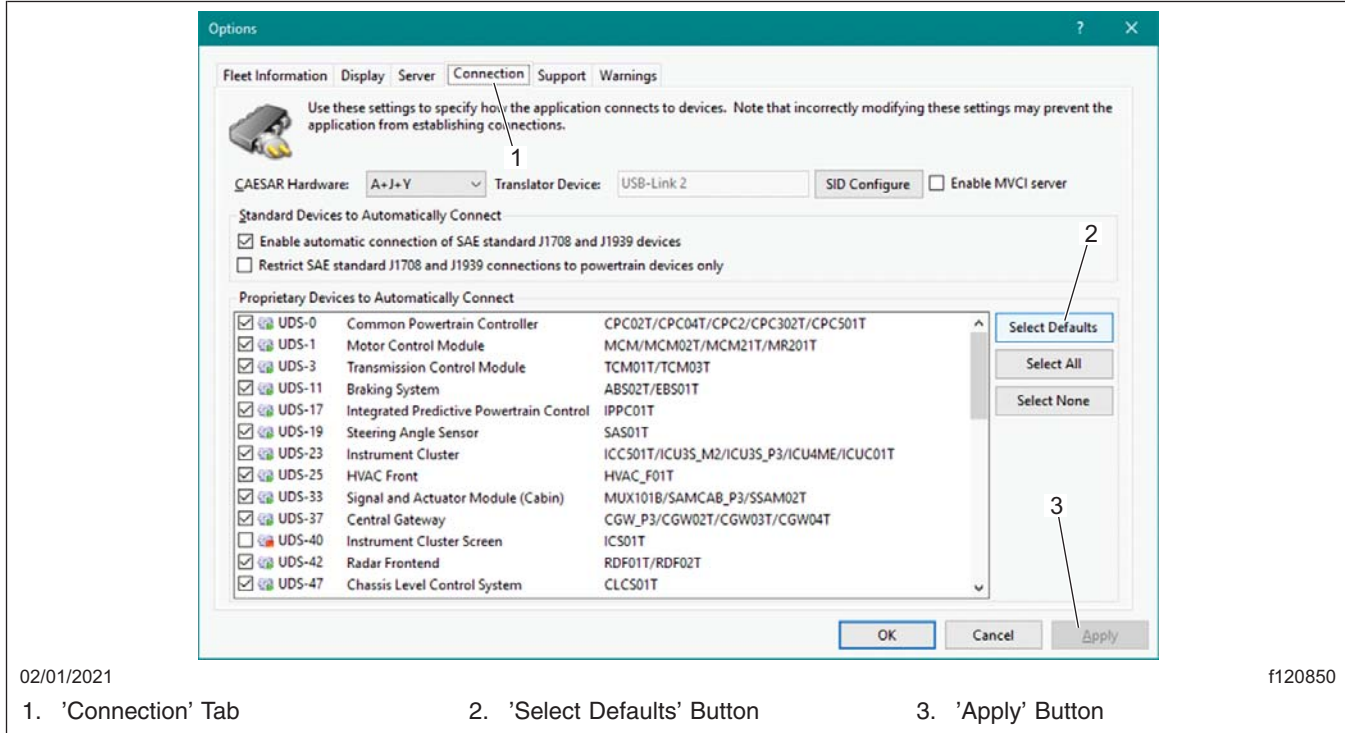

Fig. 2, Configuring DiagnosticLink to Connect to Default ECUs
- Find and select the 'Connection' tab. See Fig. 2.